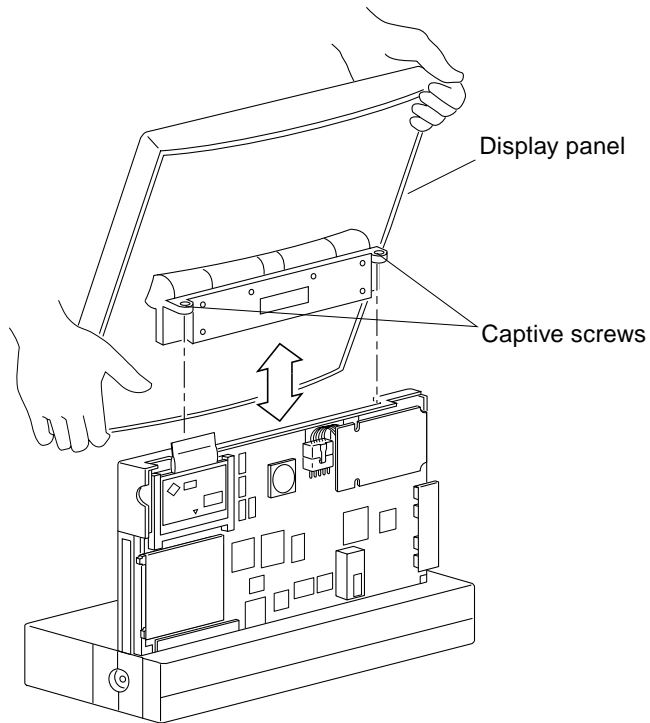

FIGURE 7-24 Replacing the Display Panel
1. Hold the display panel with both hands, position it as shown in FIGURE 7-24, and push it down until the connector sits in the socket.